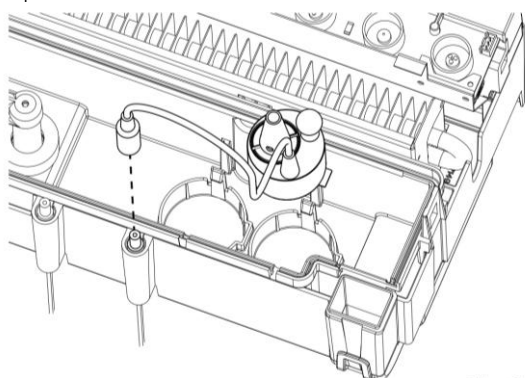

Fig 30
7. Carefully empty the sump into the sink taking note that the transducer (Fig 30) is held in place by a retaining clip.
The transducer is a consumable item and may need to be replaced through time, depending on its usage. Replacement transducers can be purchased from your dealer. The transducer is fixed in the sump with a plastic clip (Fig 30).